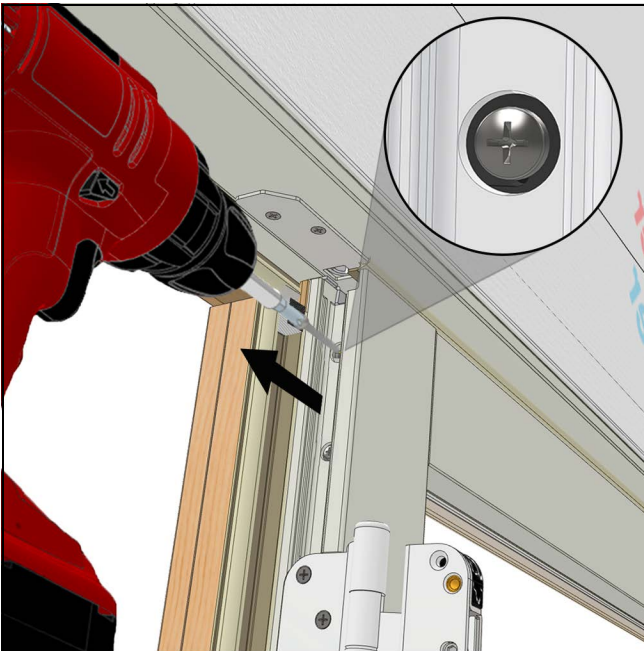

Figure 22
4. Remove one screw (pan head from each panel). See Figure 22.